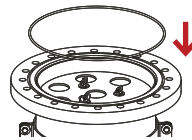

Figure 14.
4. Ensure the housing O-ring is seated properly on the cartridge O-ring grooves, Figure 14.